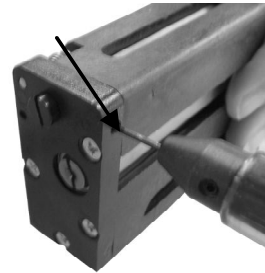
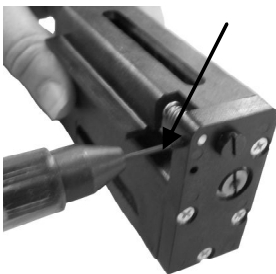

Figure 19b. Adjusting Right Set Screw
Figure 19c. Adjusting Left Set Screw
5. To increase the shear, loosen the right setscrew  $\frac{1}{4}$  turn (see Fig. 19b) and tighten the left setscrew (see Fig. 19c).